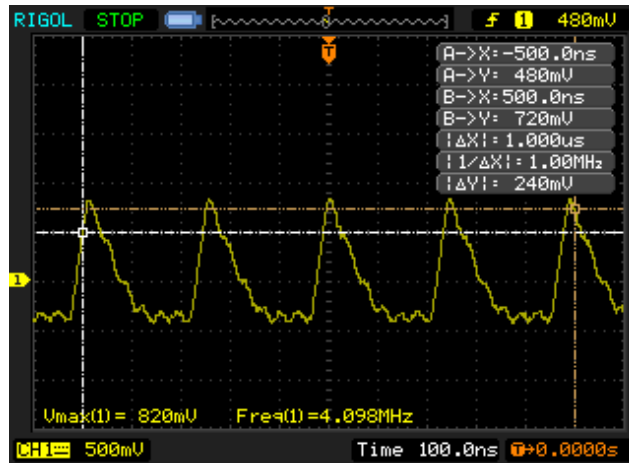

Figure 5
- Capture the oscilloscope trace with frequency visible on the oscilloscope trace similar to Figure 5.